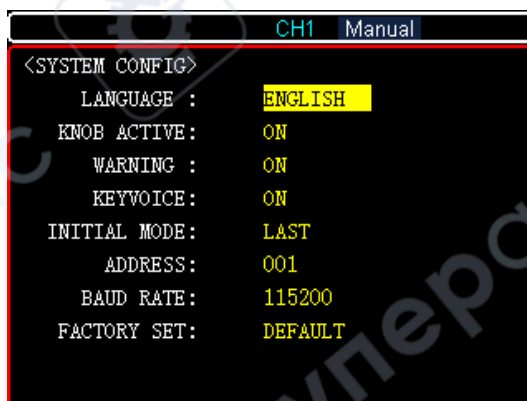

Figure 8-3 System Configuration
Other parameter setting as the same, system configuration as shown in Figure 8-3
- (1) Use rotary knob or direction key to move the cursor to **【baud rate】** , as shown in Figure 8-3.
- (2) Use rotary knob or direction key to switch baud rate.
- (3) Press Enter key to confirm and set the selected the baud rate.